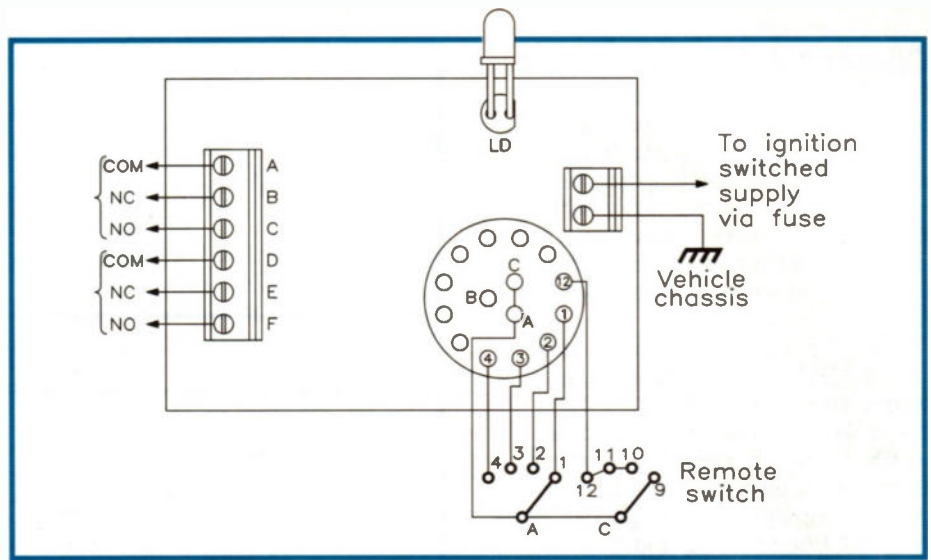

Figure 3. Remote wiring of switch and LED.
the rotary switch is to be soldered directly onto the PCB or whether ribbon cable will be used so that the switch can be mounted remotely. Refer, again to Figure 3, which shows the connections for either option. If the rotary switch is to be soldered directly to the PCB then nothing further needs to be noted; but if ribbon cable is to be used then make sure that the connections match those in Figure 3. The drawing shows poles 'A' & 'C' are common, and also that position '12, 11 and 10' are joined. Last but not least insert IC1 (555) into the 8-pin DIL IC socket, making sure that the notch matches that on the socket.
Testing the circuit is a very simple task; all that is required is a +12V DC power supply. Check first that the rotary switch SW is set to 'OFF' by rotating the spindle anticlockwise to its leftmost position. Connect a +12V DC supply referring to Figure 3, making sure that the polarity is correct. Switch on the supply and LD should illuminate. Next turn the rotary switch clockwise to the second position. The relays will activate for an instant
With the relevant information on the electrical connections, refer now between Figures 3 and 4b. First disconnect the link between terminals 53E and 31B. Connect terminal 53E to position D and terminal 31B to position
E on the six position terminal connector. Next connect a lead from terminal 15 to position C, and connect a lead from terminal 53 to position A. Note that there should be nothing connected on either positions B or F. Power for the module should be from a fused ignition switched supply, and this should be connected to the top connection of the two position terminal connector as shown in Figure 3, and the ground connection should be made from the vehicle's chassis to the lower connection.